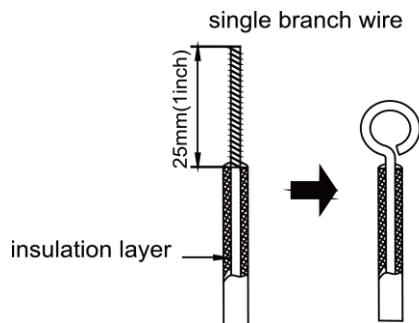

Fig 5.1.1
(1) Single wire connection (as shown in Fig. 5.1.1)